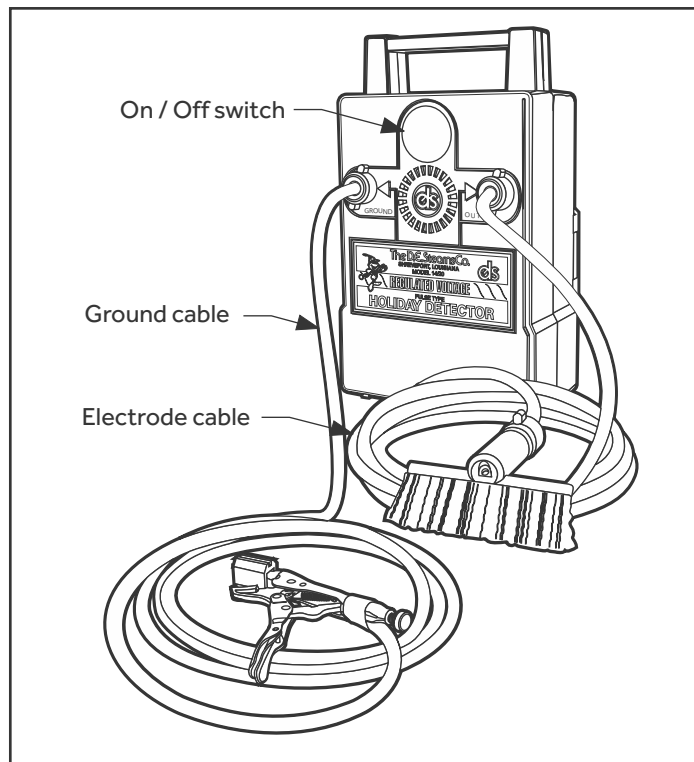

Fig. 55: D.E. Stearns Spark Tester
1. Set The Tester: On the back of the unit are two black, slotted screws caps. (Fig. 55) Remove these caps to expose the adjusting screws underneath. Set the spark tester to achieve 2500 volts. Set the High/Low selector to Low and set the numeric selector to eight. Test the unit by switching it on and grounding the electrode brush against the ground strap. The resulting audible tone should become noticeably louder.